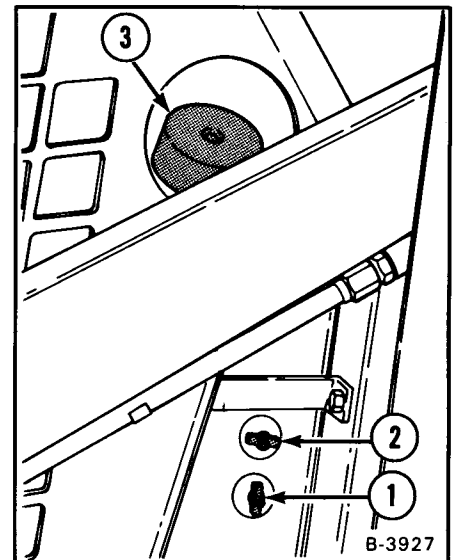

Fig. 66 Hydraulic Level Check
2. Open the bottom check valve on the side of the reservoir (Fig. 66, Item 1). The oil level is good if the oil level is between the top and the bottom check valve. If no oil flows, close the valve and proceed with step 3.
3. Open the top check valve (Fig. 66, Item 2). Remove the fill cap from the reservoir (Fig. 66, Item 3). Add oil to the reservoir until it flows at the top check valve. Close the valve and replace the fill cap.
4. Open the top check valve (Fig. 66, Item 2). Remove the fill cap from the reservoir (Fig. 66, Item 3). Add oil to the reservoir until the oil flows at the top check valve (approximately 3.5 gallons [13L]). Refer to "Specifications", page 62 for type of oil to use. Close the check valve and replace the fill cap. **DO NOT** fill above the top check plug level. Operate the loader hydraulic controls through all the hydraulic functions. Check oil level again (See Checking and Adding Oil).